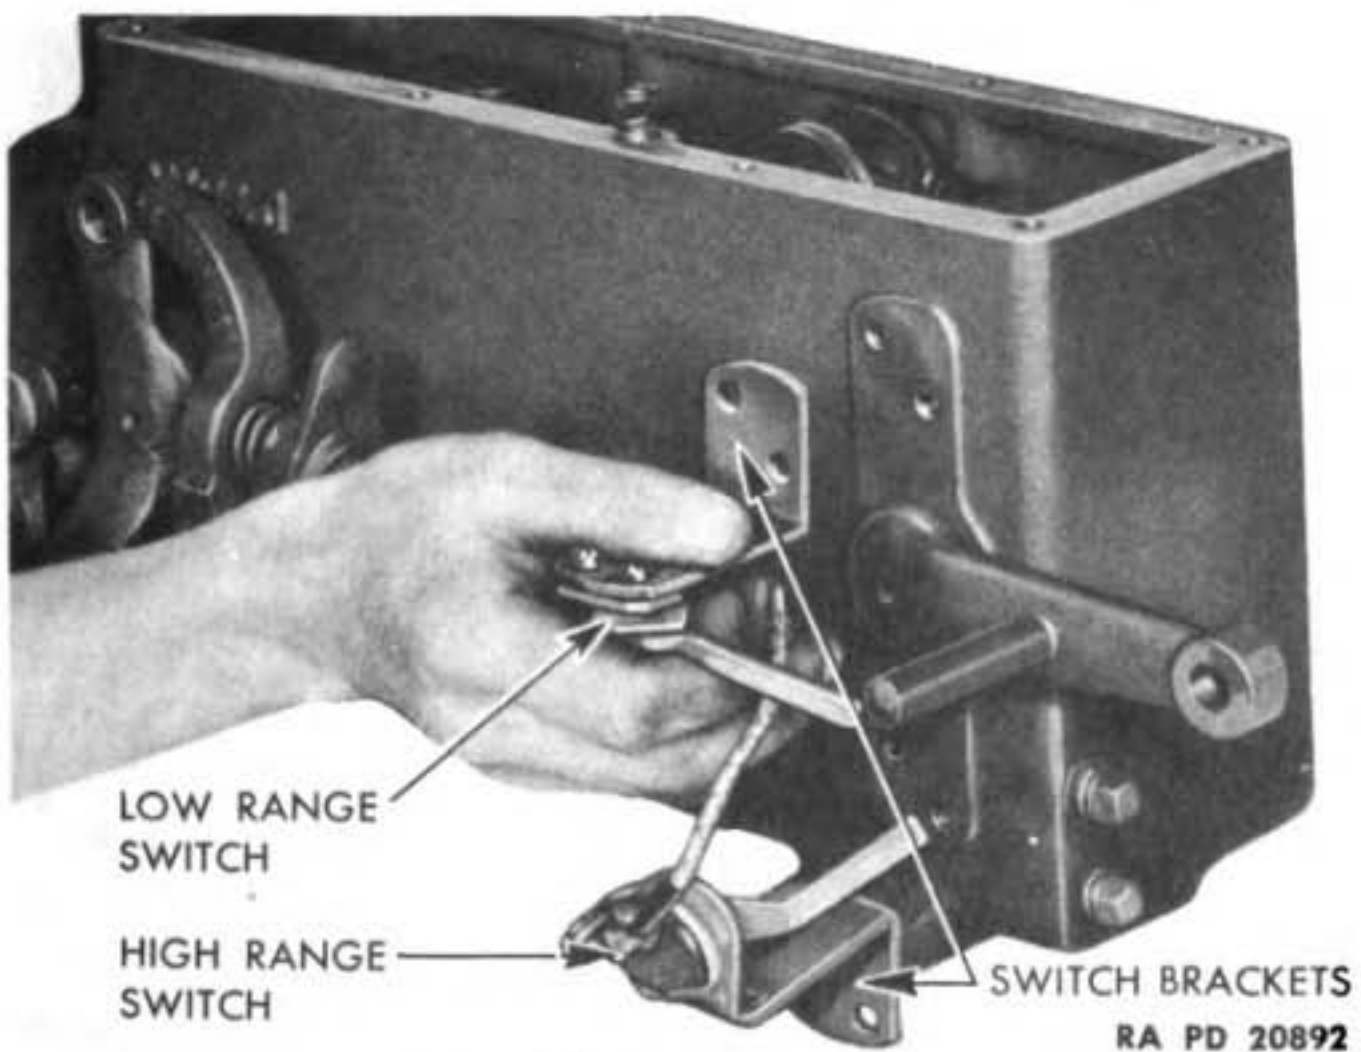

Figure 163 — Removing Range Switches and Brackets
(5) REMOVE CLUTCH LOW AND HIGH RANGE SWITCHES AND BRACKETS (fig. 163). Remove two cap screws with lock washers attaching each switch bracket to housing.
(14) **INSTALL RANGE LIGHT SWITCHES** (fig. 163). Attach high and low-range light switch brackets to housing with four cap screws and lock washers.